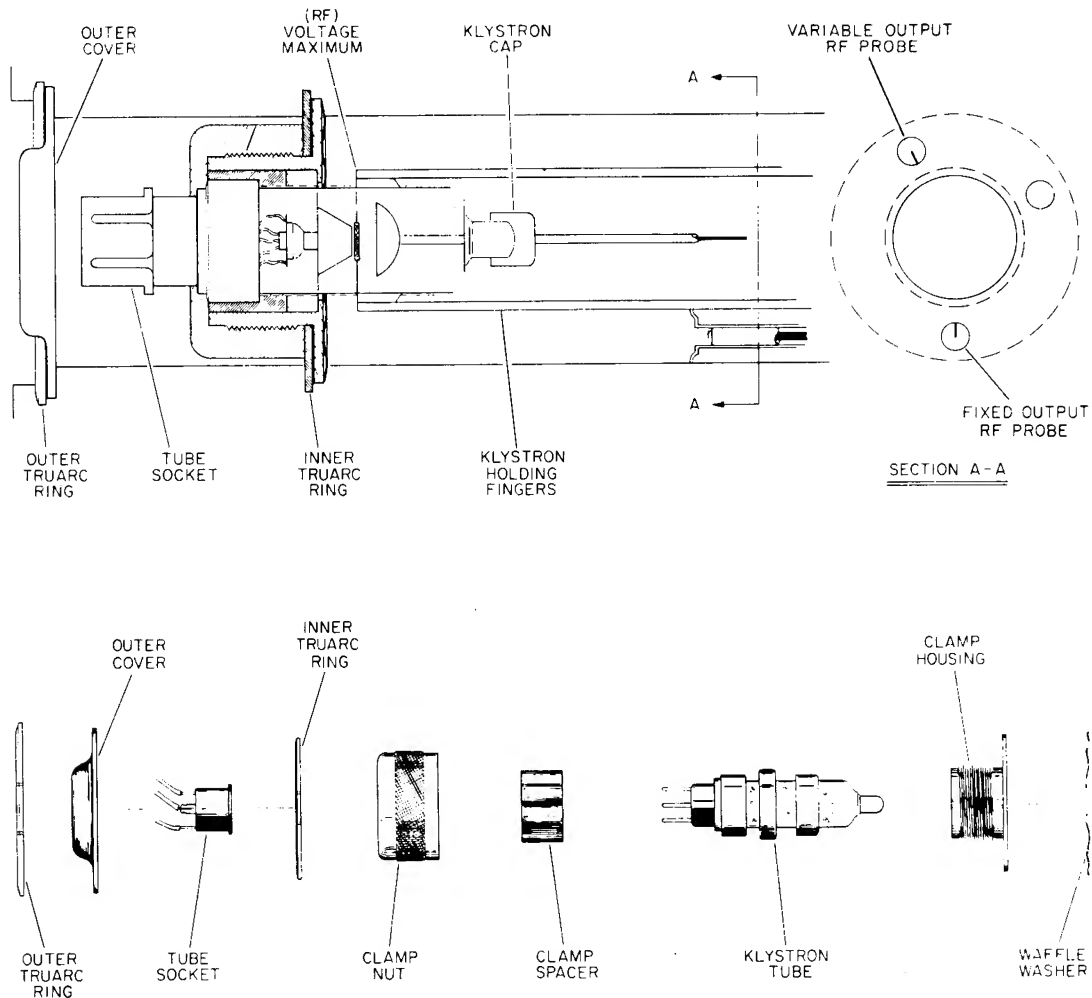

Figure 5-5. Klystron Assembly in Cavity
- Using truarc pliers which are available in a repair kit, *hp* Stock No. 08614-800, remove outer truarc ring from outer cover of klystron cavity (see Fig. 5-5).
- Remove tube socket from klystron with a straight pull. Remove klystron tube from cavity. Unscrew clamp nut, lift out clamp spacer, and remove klystron (see Figure 5-5).